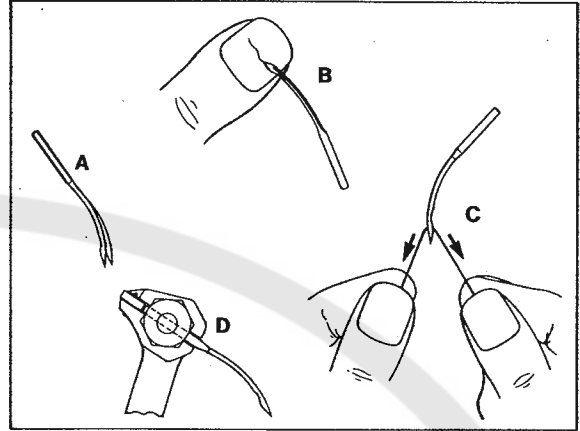

Fig. 2
- Place a new needle of the same type and size alongside the existing needle to check curvature of needle blade as shown (A, Fig. 2).
- Apply the thumbnail test to check for bluntness and/or hooks on the tip of needle(s) as shown (B, Fig. 2).
- Check for any sharpness around eye and/or grooves of needle(s). For a quick check, pull the thread up and down back and forth through the needle eye as shown (C, Fig. 2). If any sharpness exists, it will shred and sever the thread.
- Be sure needle(s) is all the way up in needle holder and positioned correctly with the spot or scarf to the rear as shown (D, Fig. 2).